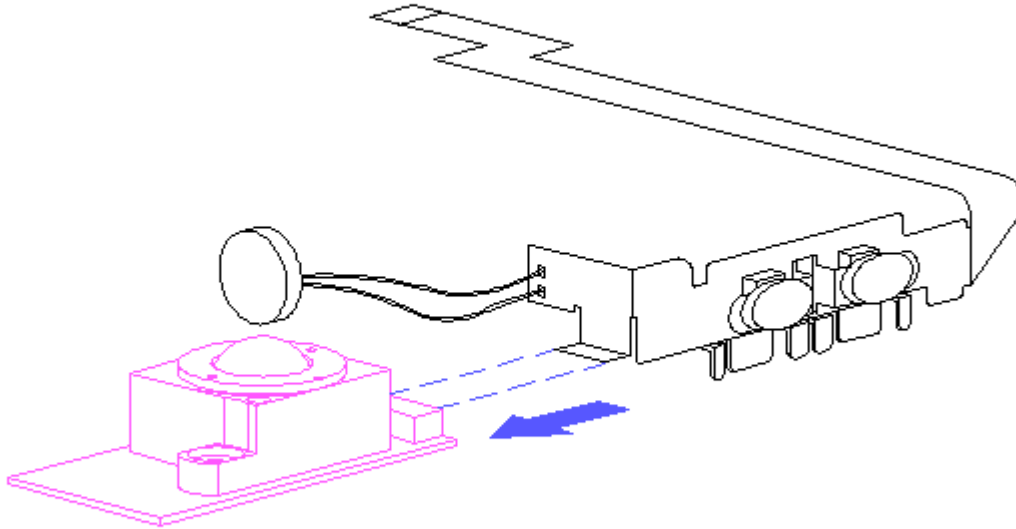

Figure 3-39. Unplugging the Trackball
7. Remove the trackball, speaker, and cable assembly. Unplug the trackball from the cable/buttons/speaker assembly (Figure 3-39).